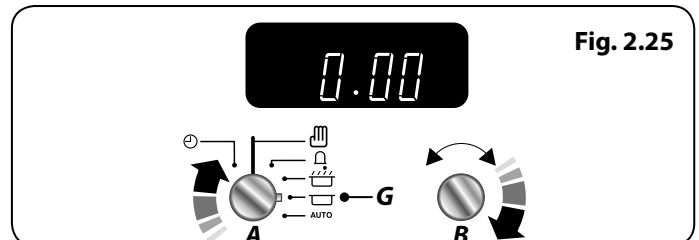

Fig. 2.25
2. Turn the **Timer (A)** knob to the **Stop Time (G)** setting (**Fig. 2.25**). The display will show the current time of day plus the 'cook time' you just set.